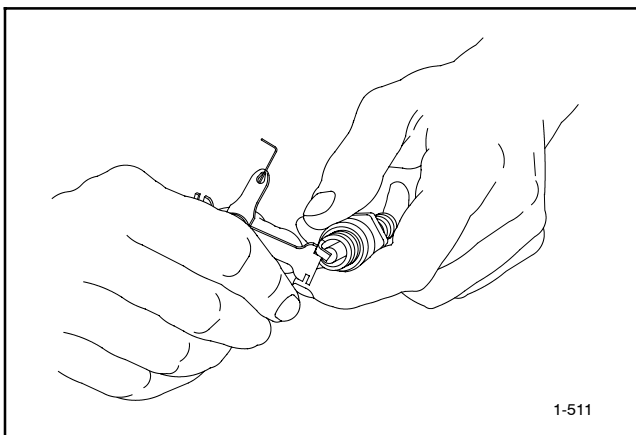

Figure 4-8 Spark Plug Gap Adjustment
- Use a gapping tool to gently bend the side electrode closer to or farther from the center electrode to set the correct gap. See Figure 4-8. Position the side electrode directly over the center electrode.